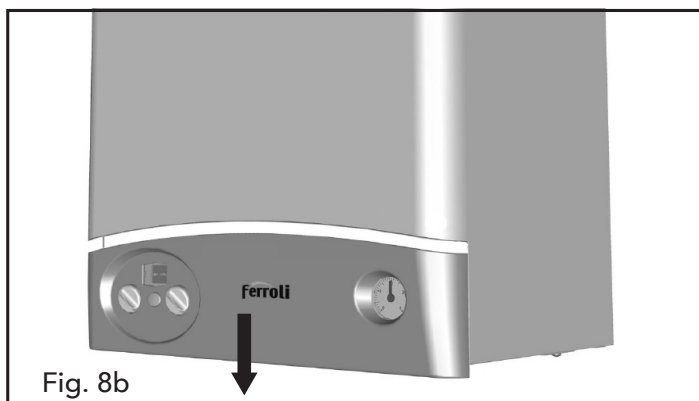

Fig. 8b
- 2 Lower the instrument panel (Fig. 8b)